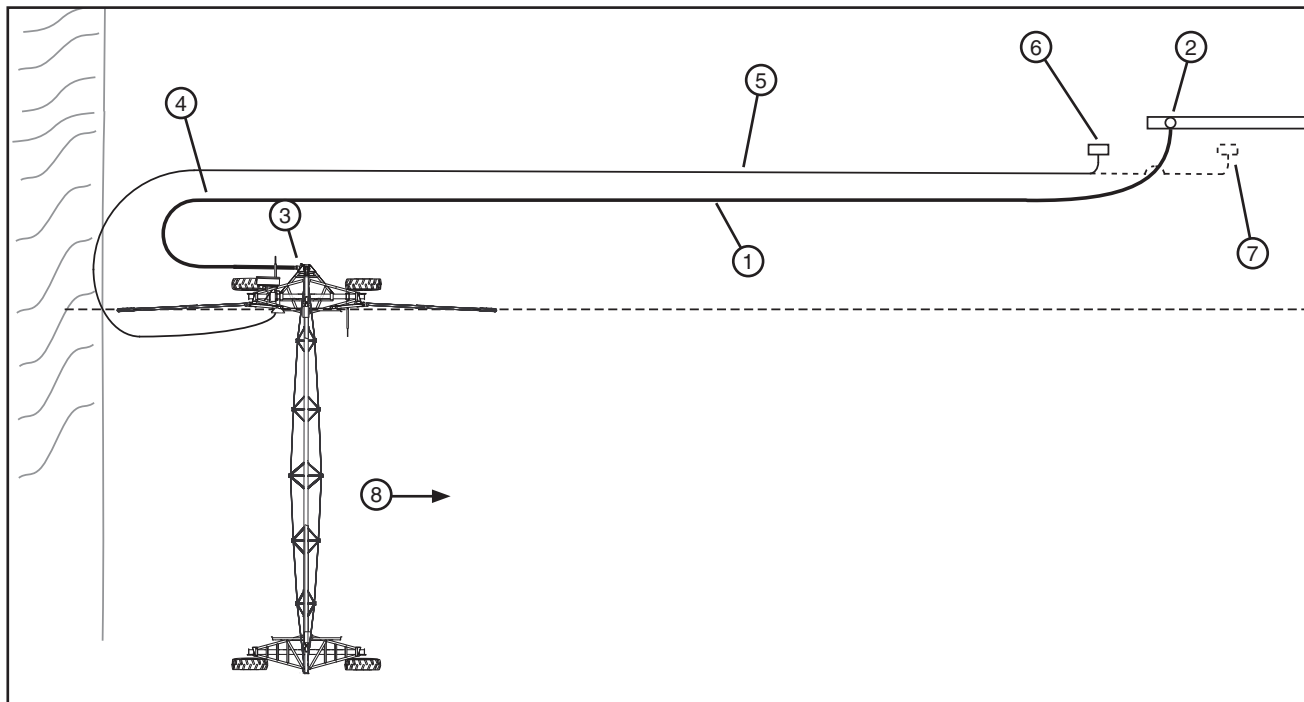

Figure 54-1 1. First Hose 4. Temporary Post (optional) 7. Alternate Power Pedestal Location and Electric Cord Position
1. Connect the first hose to the pipeline shut off valve and linear cart swivel inlet, then latch in place. See figure 54-1.
- Temporarily installing a post approximately 6 ft (1.82M) behind the linear cart and on the pipeline side of the hose will aid in connecting the polyethylene hose to the linear cart inlet. See figure 54-1.
- (a) Position the electric cord far enough away from the hose, so that the hose will not drag over it. When applicable, prevent interference between the electric cord and hose by positioning the electric cord over the top of hose. See figure 54-1.